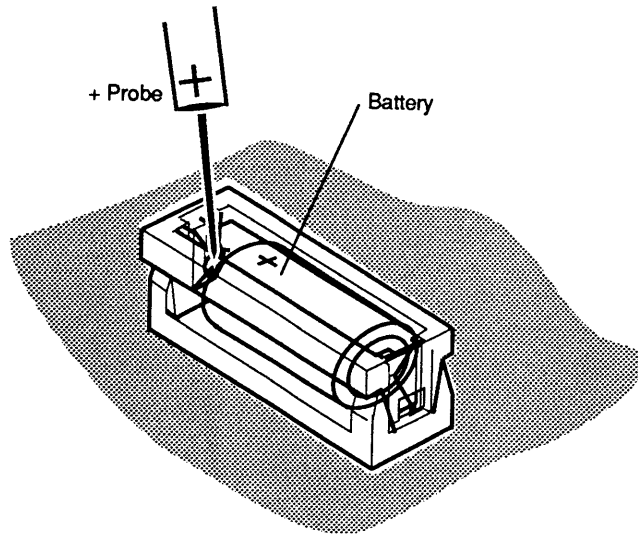

Figure 4-2 Battery Verification
3. **Figure 4-2.** Touch and hold the **positive probe** of the voltmeter to the **positive side** of the battery.